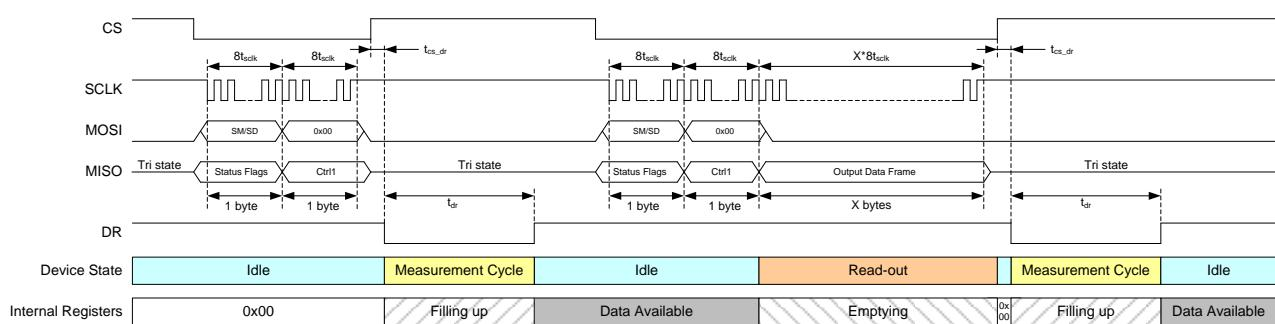

Figure 14 : Combined SM - RO (X value is defined in Figure 6)
- Figure 14 : Combined SM - RO (X value is defined in Figure 6) shows the operation with the combined SM and RO. First one has to upload a SM command to start a measurement. The data is available for read-out when the *DR* pin goes high. Instead of uploading a RO command, a SM command can be uploaded again to combine read-out and the start of the next measurement cycle. If extra clocks are given after upload of the SM command, the data of the internal registers becomes available on the *MISO* pin. Note that the *CS* pin shall not be set high until the read-out is finished. Once *CS* pin goes high, the *DR* pin is set low and a new measurement cycle will be started. A time t_{dr} later the *DR* pin goes high to indicate that the data is available.